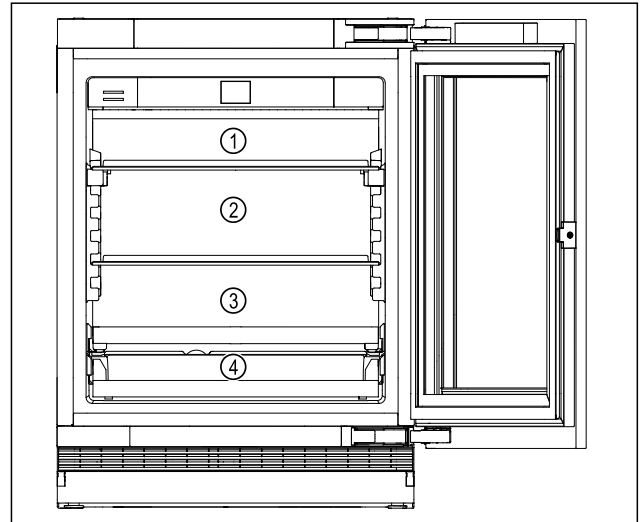

Fig. 4 Example illustration
- ▶ Top area Fig. 4 (1): Store butter, cheese, canned food, and tubes.
- ▶ Middle area Fig. 4 (2): Store packaged fruit and vegetables, baked goods, and cakes.
- ▶ Bottom area Fig. 4 (3): Store perishable food, such as pre-cooked meals, fish, fresh meat and lunch meat.
- ▶ Beverage shelf Fig. 4 (4): Store cans, smaller bottles.